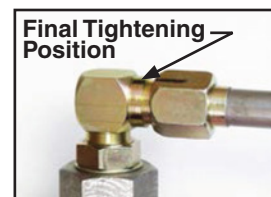

Fig. JA3 Mark Final Tightening Position
7. Mark final tightening position on fitting by extending the existing mark from the nut to the adjacent fitting surface. See Fig.JA3.